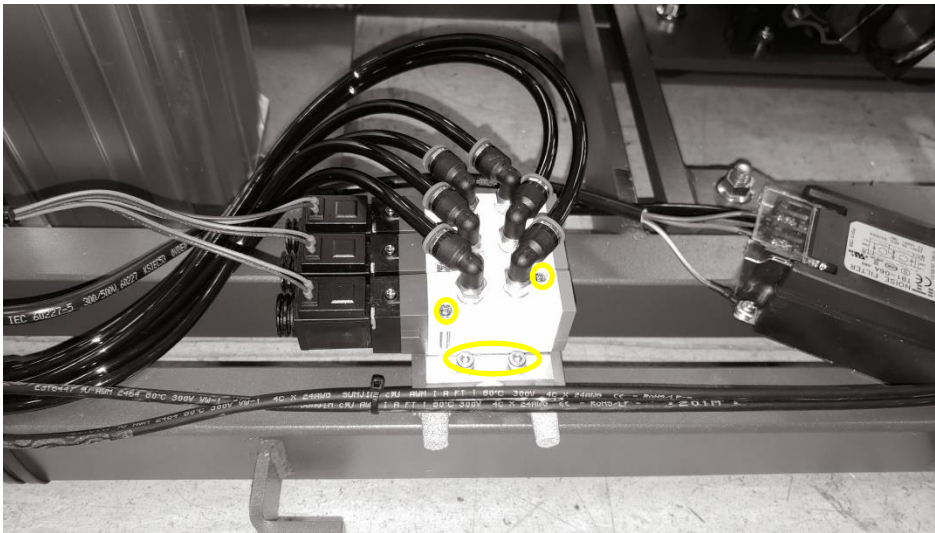

Figure 9.1
3. Remove the 4 mm bolts on both sides (see figure 9.1).